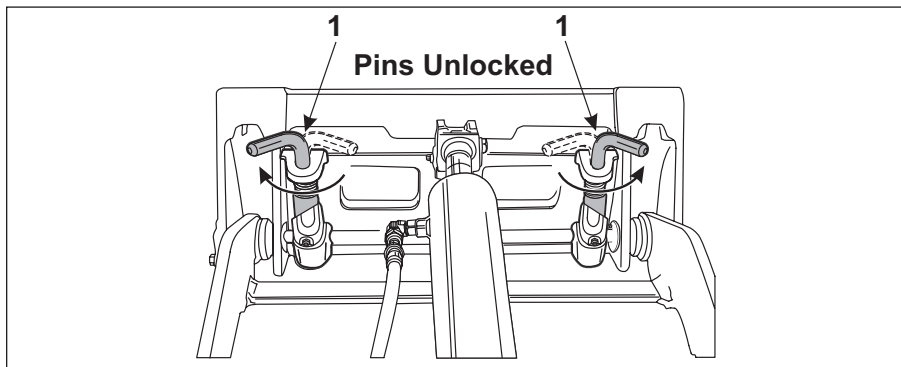

Figure 3-31 Attachment Locks in Unlocked Position
**NOTE:** Make sure that both of the attachment lock pins (Item 1, Figure 3-31) are in the “unlocked” position.